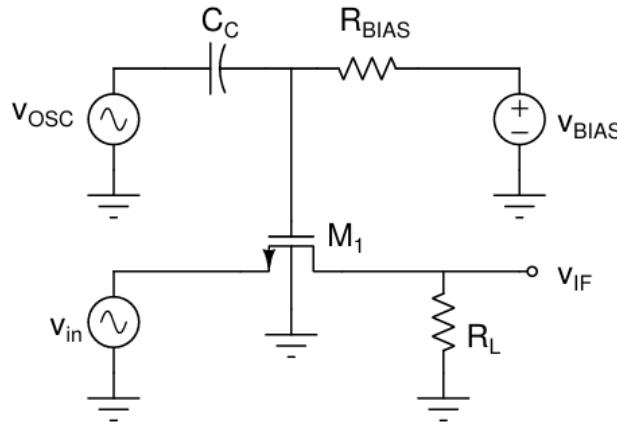

Figure 2: NMOS Mixer Circuit
As shown in Fig. 2, a simple MOSFET can be used as a Switch (mixer), where the oscillator signal is applied to the gate of the MOSFET, the Input is applied at the source and the Intermediate frequency output is taken at the drain end.
- b. As shown in Fig. 2, implement the mixer using an NMOS in LTSpice. Clearly mention the values of R_{BIAS} , C_c .